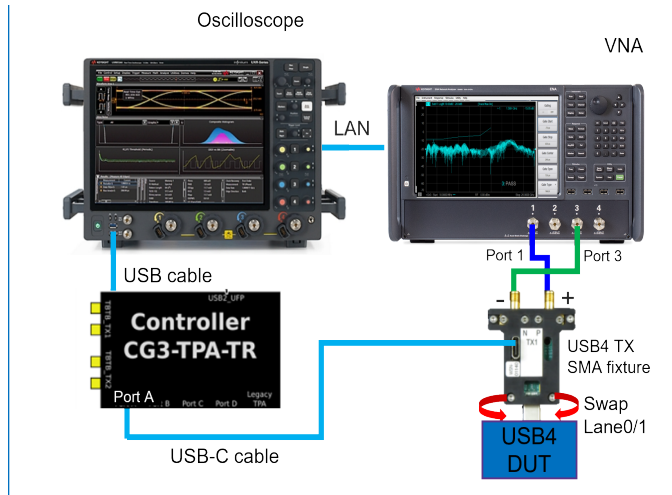

Figure 76 Tx Return loss test setup with Tx SMA test fixture
- 1 For the physical connections between the DUT & the Oscilloscope, see the connection diagrams in Figure 76 and Figure 77.